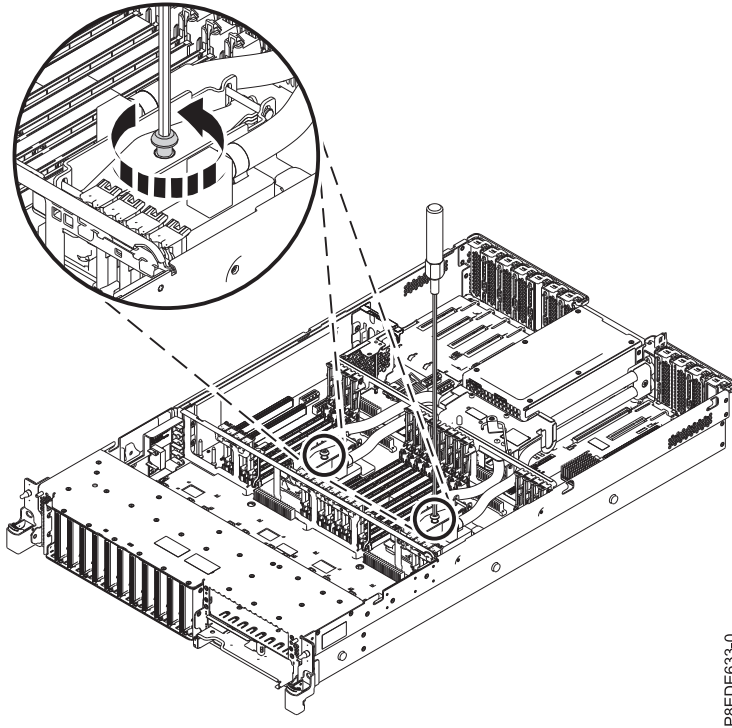

Figure 26. Loosening the cold plate retainer screw
- c. Loosen the cold plate retainer screw with a 4 mm or 5/32 inch Allen wrench as shown in Figure 26.